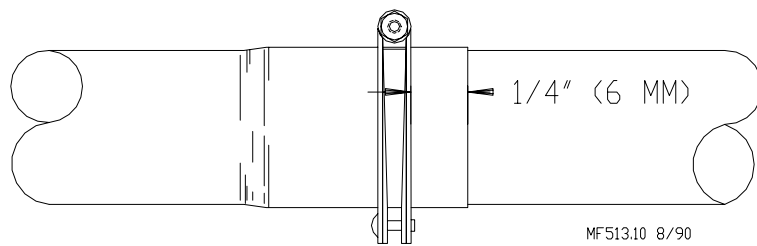

Figure 43. (Side View)
5. Starting with tube number 1, set the clear pointer on the gauge to the proper setting according to the indexing chart. Rotate the tube until the bubble in the leveler comes to the center. Install and tighten the clamp, as shown in **Figure 43**, on the bell toward the hopper.
Position the clamps on the tube joints, as shown in **Figure 43**.